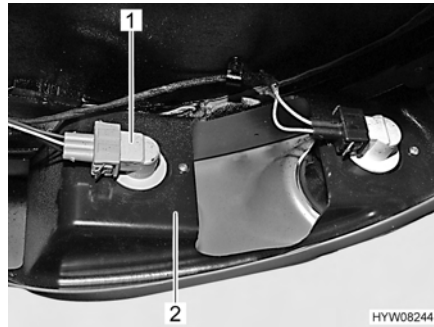

Fig. 104 Rear light/brake light
- Put your hand behind the lamp surround (Fig. 104,2).
- Give the lamp holder (Fig. 104,1) with the bulb a quarter turn and remove it.